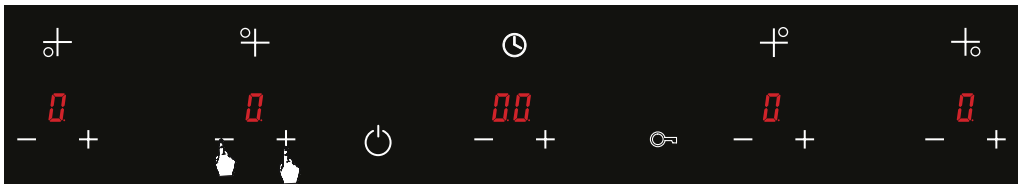

Figure 48
4. You may turn off the hob by pressing the **+** and **-** keys of the relevant hob for 5 seconds simultaneously. The **0** symbol shall be displayed on the screen. (See Fig. 48)